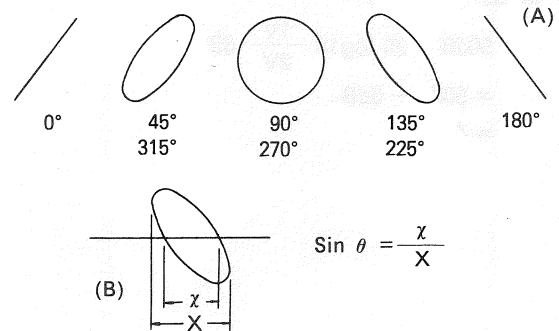

Fig. 6 Check of Phase Shift Angle
First, measure the maximum horizontal deflection and suppose that this deflection is "X" and that the section at which the ellipse crosses the horizontal axis is "x", as shown in Fig. 6 . And, the phase shift angle  $\theta$  is given by the following.
2. Remove the fuse holder in the rear panel using a standard screwdriver (see Fig. 6 ).
voltage to the mark ▼ and plug the fuse holder back into place. When changing the supply setting from 100/120V to 220/240V, change the 0,3A fuse for a 0,2A one. (see Fig. 6 ).